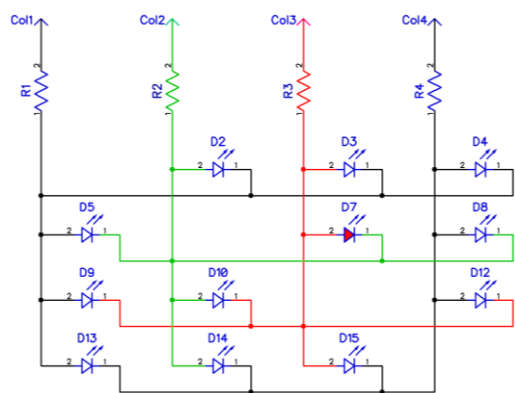

Figure 46 – Four line Charlieplexed matrix
If the diagonal LEDs are removed, and at these intersections, the rows are connected to the columns, the row inputs will no longer be needed and can be removed. The result is seen in Figure 46, where 12 LEDs are connected to four I/O lines. This is Charlieplexing.
With a given number of I/O lines (N), how can the number of LEDs that can be controlled be calculated? Figure 46, gives a visual representation of the answer. The number of LEDs that can be Charlieplexed are N (number of rows) times N (number of columns) minus N (number of diagonal LEDs removed). For this example, the number of LEDs four I/O pins can control can be calculated: